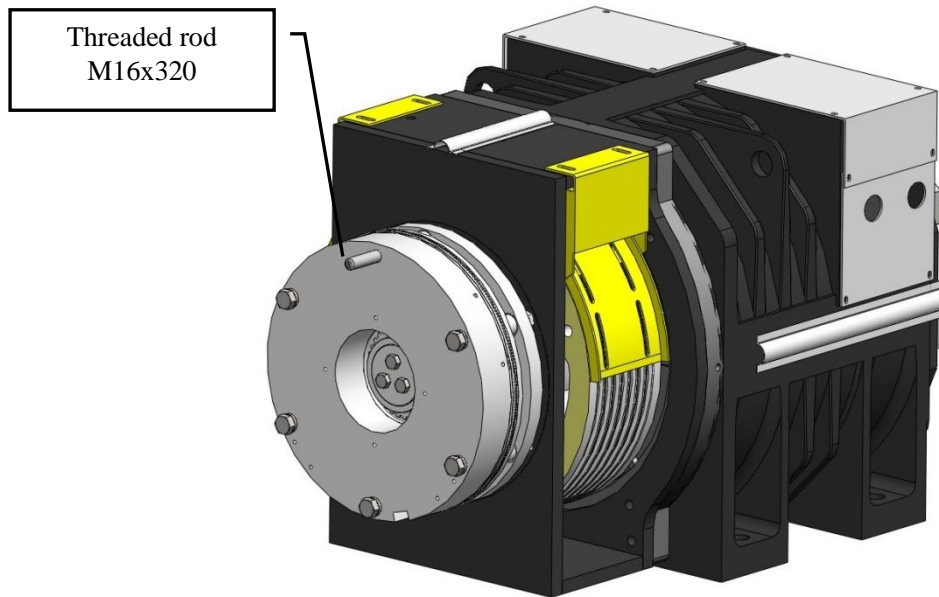

Figure 34: Install Threaded rod
- Then install the threaded rod M16x2x320 into the hole. See Figure 34.